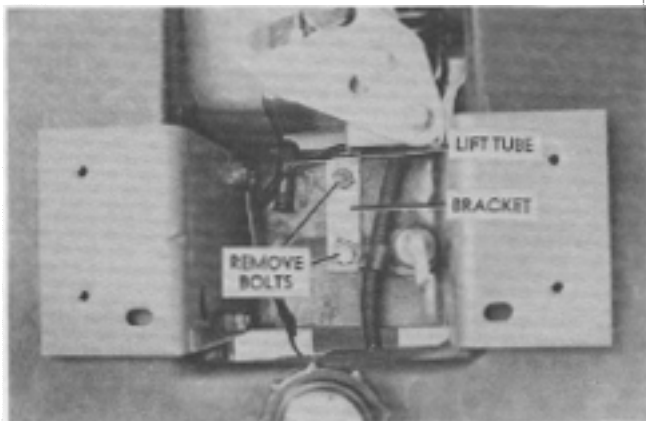

FIG. 21. Free Seat Support from Transaxle
14. Install lift tube, bracket and bolts. Be sure front of lift tube enters hole at front of transaxle mounting flange. Use lockwashers or new Eslok bolts. Refer to Fig. 21 and reference photo below.
6. Remove two bolts, bracket and lift tube from top of transaxle (Fig. 21).
7. Remove two bolts securing oil filter base to seat support (Fig. 21).